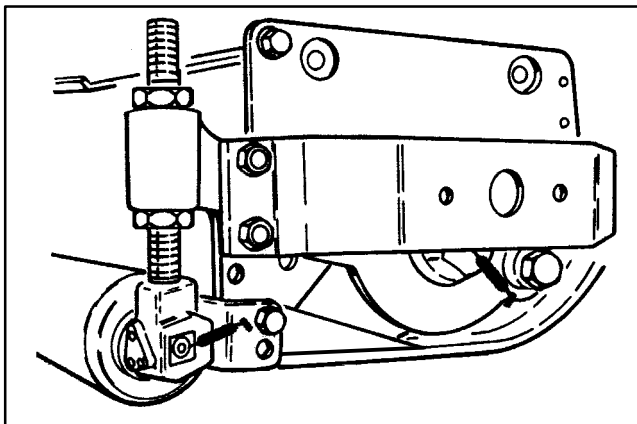

Figure 4
There are (4) grease fittings on each thatching reel unit — one on the end of each roller and reel shaft. Each should be greased daily with #2 general purpose grease (Fig. 4).